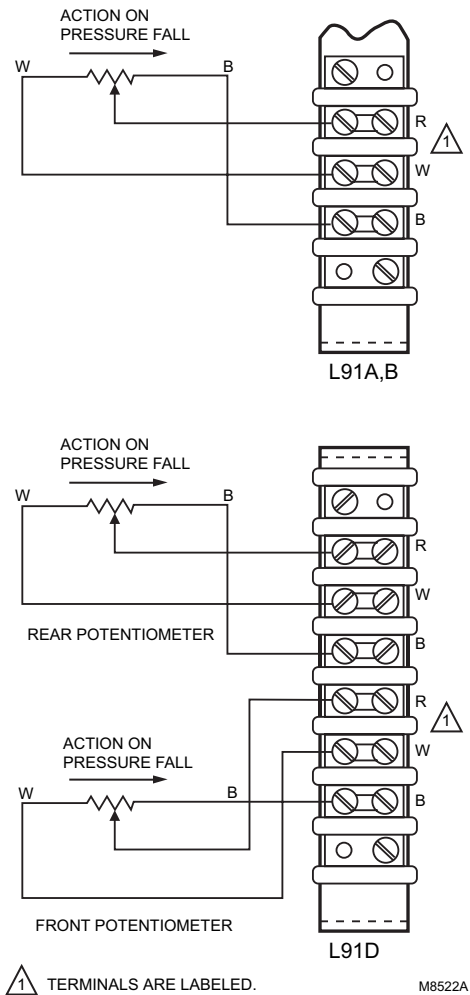

Fig. 3. L91 terminal blocks and internal schematics.
5. All models have a terminal block inside the cover (Fig. 3) and two 7/8 in. (22.2 mm) holes in one side for 1/2 in. conduit, cable, or wires. Remove the front cover by loosening the screw at the bottom of the scaleplate.